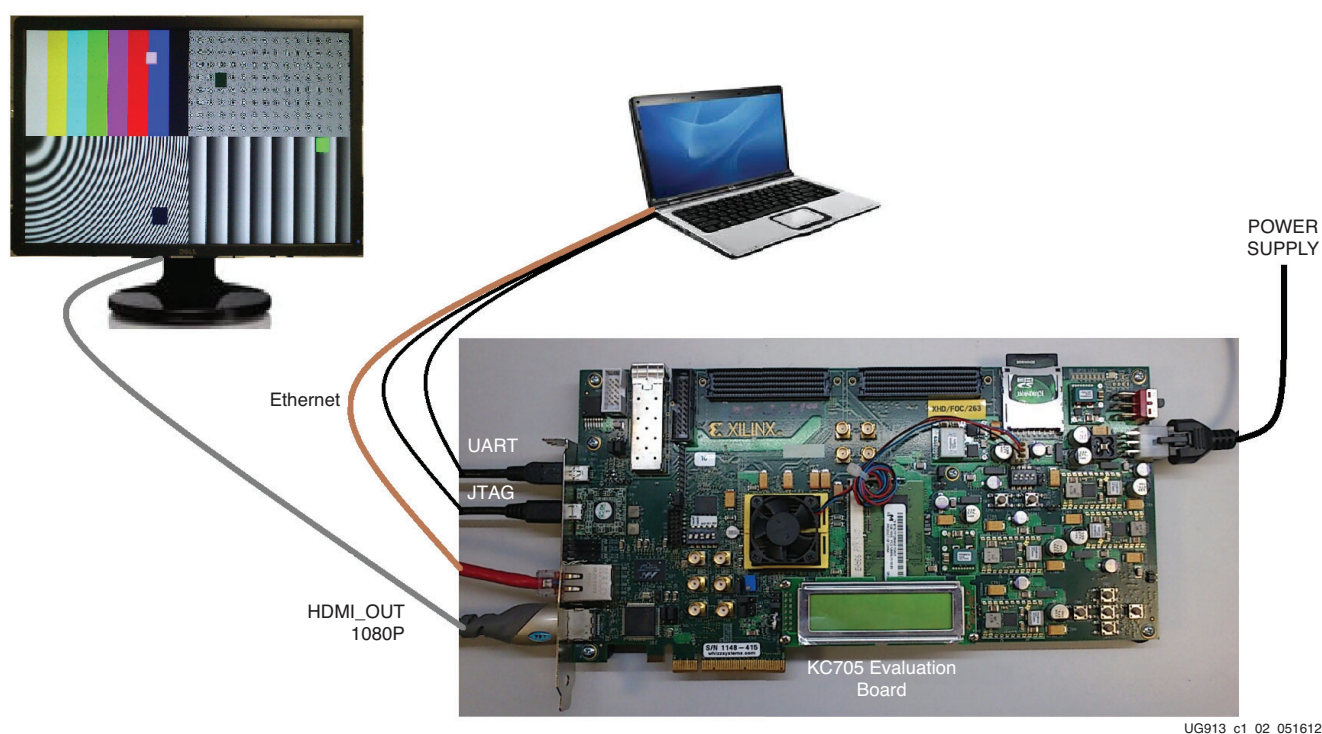

Figure 1-2: Kintex-7 FPGA Video Demonstration Hardware Setup
2. Connect the KC705 board, HDMI cables, display monitor, Ethernet cable, and USB cables as shown in Figure 1-2.